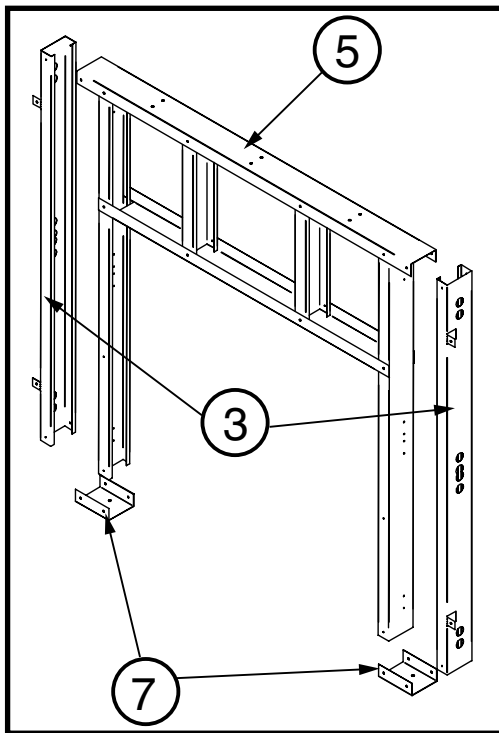
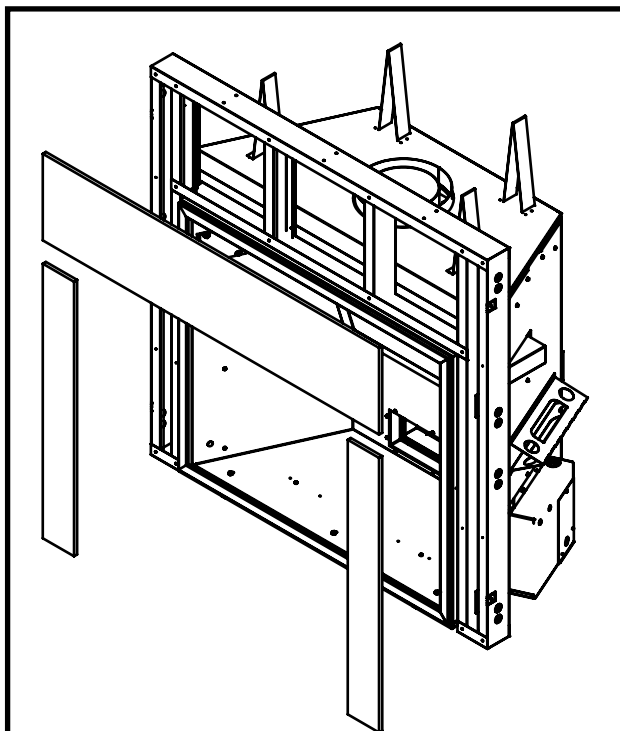

Figure 20: Outer studs.
Figure 22: Installing non-combustible board.
- Attach at the fastening points through the access holes in the outer side studs, ensuring that the assembly is parallel to the unit. (item 3 in Figure 20).
4. Secure the frame assembly to existing framing through the stud header (5) and the stud plates (7).
- Use drywall screws to install the non-combustible board (Figure 22).